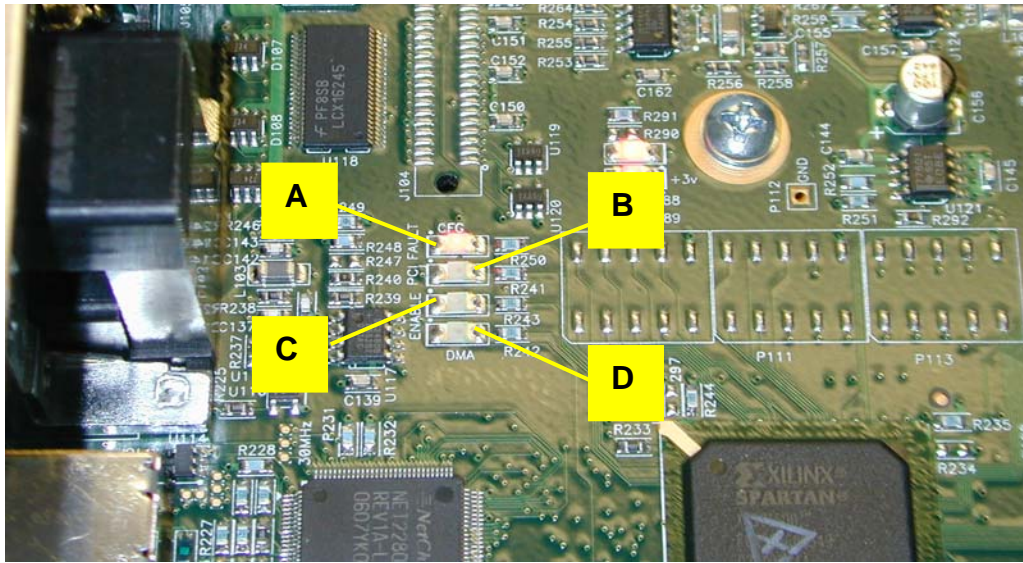

Figure 6 BZOD module indicators
14. The LED indicators located on the BZOD module (figure 6) will indicate the instrument status during the initial instrument start up and launch of the APx500 control software.
15. Power off the instrument, and then power it on while observing the LED indicators. During the initial start-up of the APx585 instrument, the BZOD module LED indicators shown in figure 6 will be as follows: